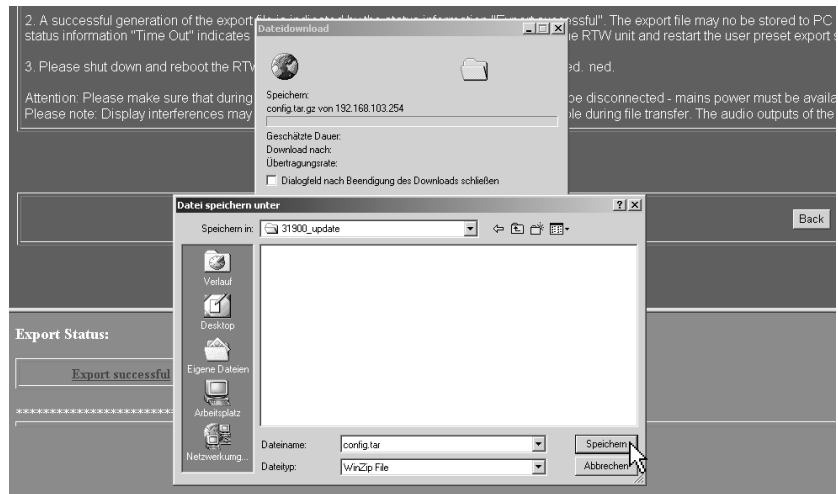

Fig. 8-17: Choose the folder for saving the export file
- The save file as ("Datei speichern unter") dialog box is shown. Choose the folder (e. g. C:\31900_Update) for saving the export file config.tar.gz (see Fig. 8-17).